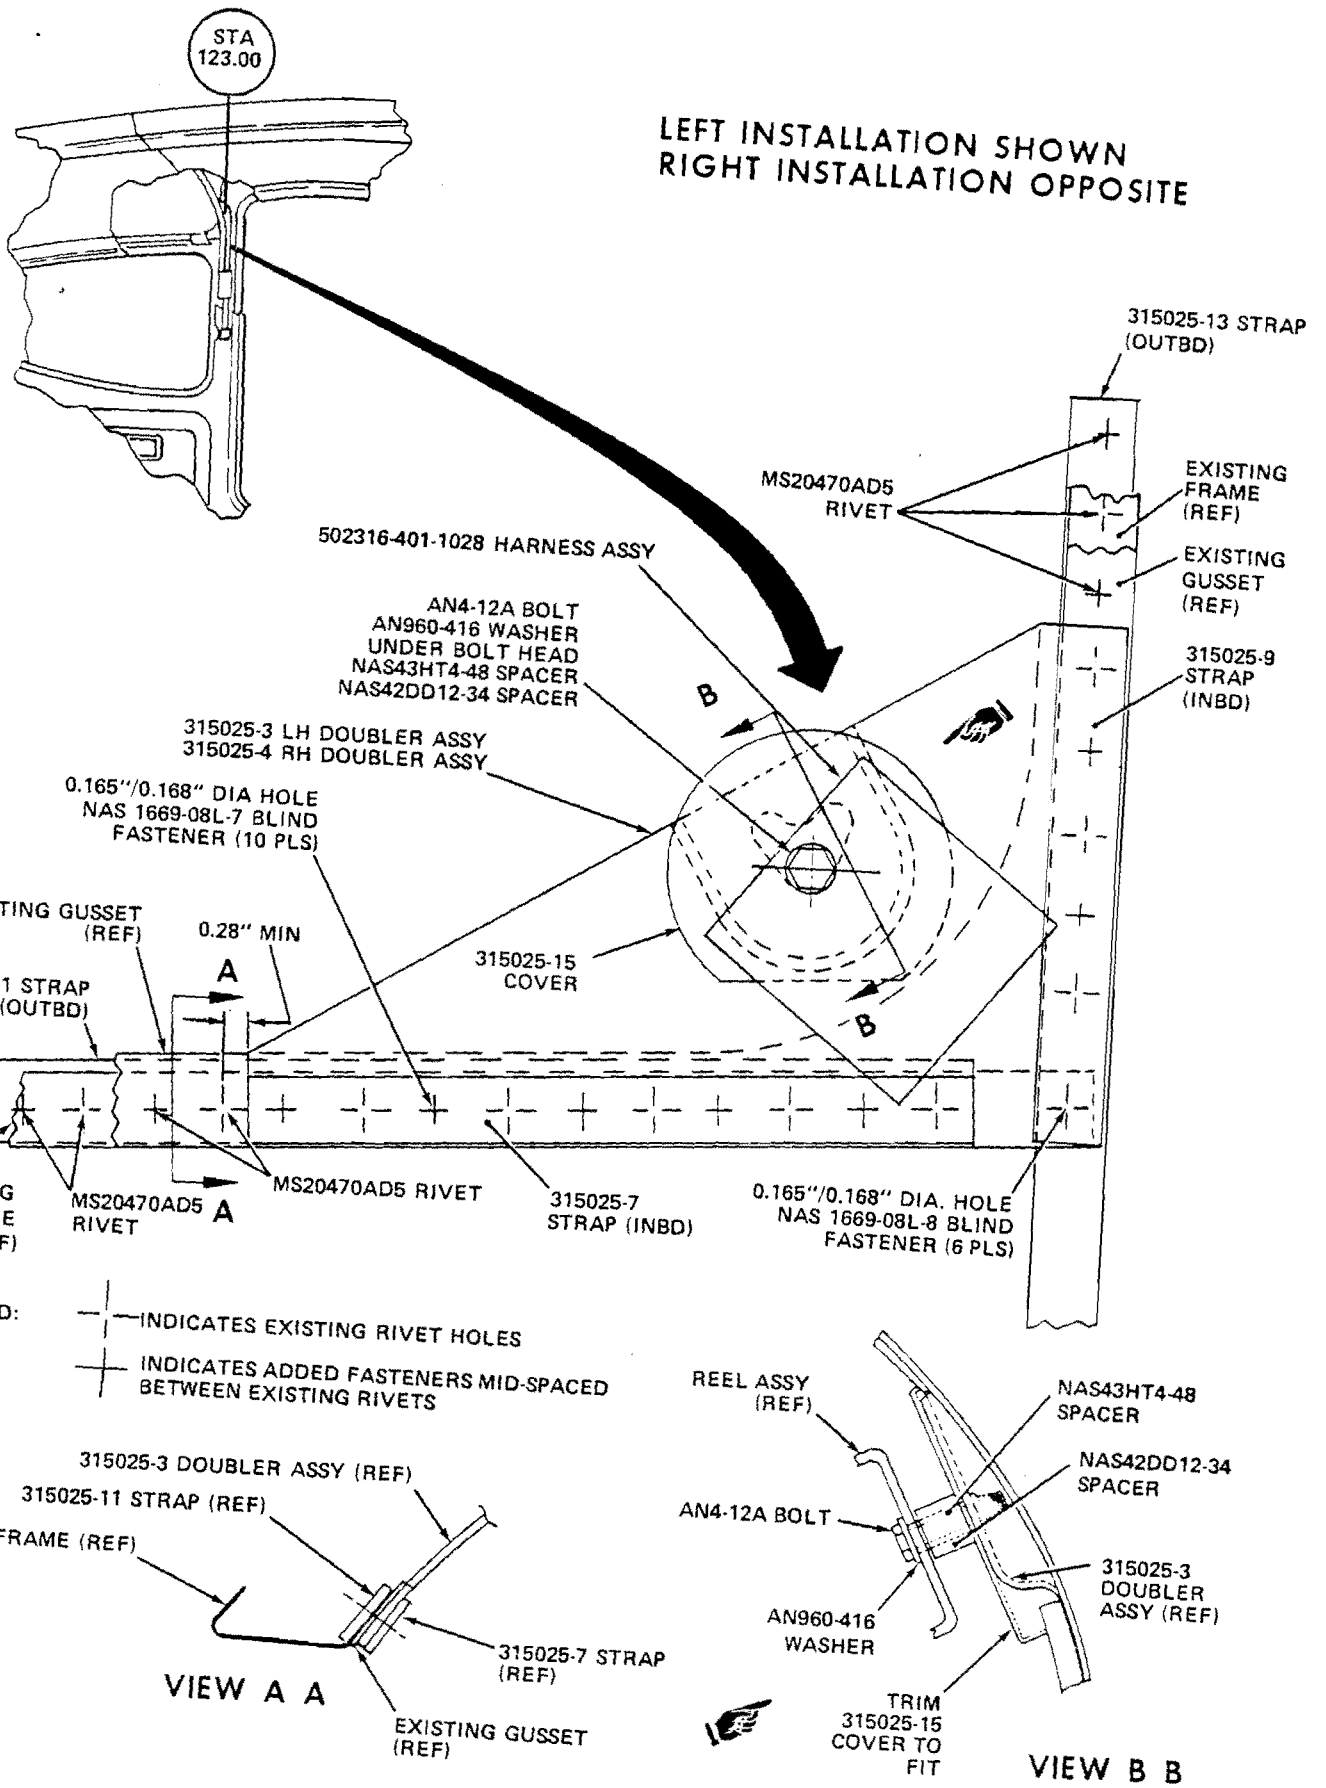

Figure 1.
16. Install inertia reel on doubler assemblies using AN4-12A bolt, AN960-416 washer (under bolt head, NAS42DD12-34 spacer and NAS43HT4-48 spacer (refer to Figure 1).
- c. Reinstall shoulder harness reel assembly using AN4-12A bolt, existing AN960-416 washer, NAS43HT4-48 spacer and NAS42DD12-34 spacer (refer to Figure 1).